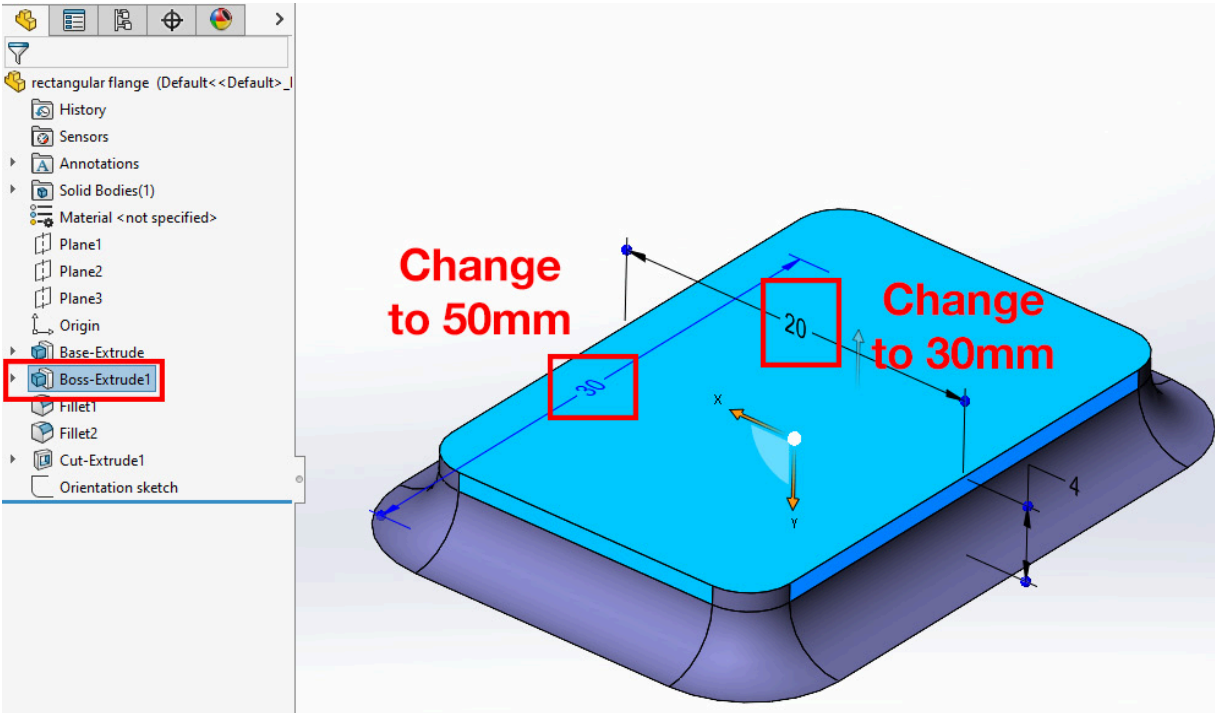

Figure 10.8: Adjusting the Forming Tool size
4. Adjust the size of the main rectangular area (the **Boss-Extrude1** feature) by changing the dimensions from **30x20mm** to **50x30mm**, as illustrated in *Figure 10.8*.